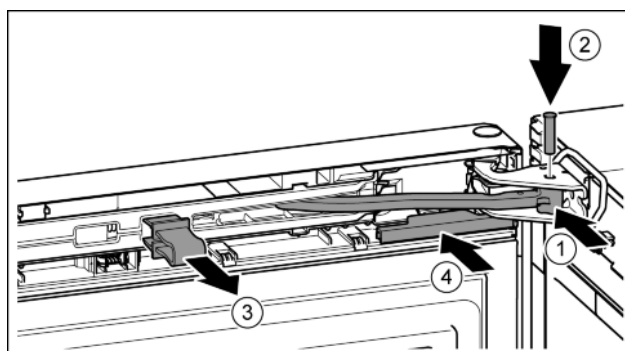

Fig. 21
- Turn the hinge in the bearing bracket. Fig. 21 (1)
- Insert the bolt in the bearing bracket and hinge. Make sure that the catch mechanism is sitting correctly in the groove. Fig. 21 (2)
- Remove the locking device. *Fig. 21 (3)*
- Slide on the cover. *Fig. 21 (4)*